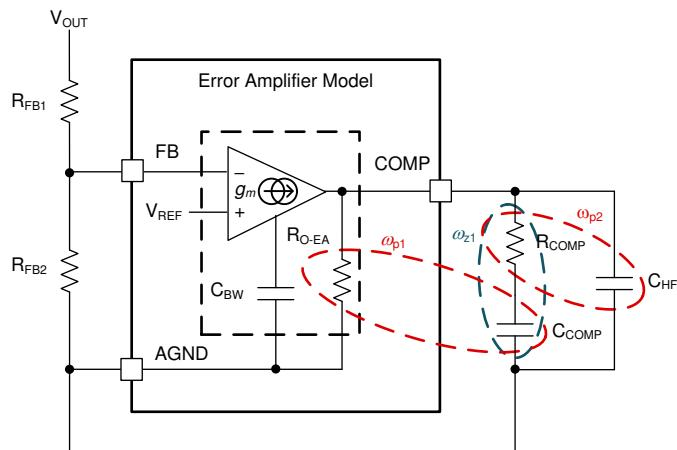

図 8-3. Error Amplifier and Compensation Network
図 8-3 shows a type-II compensator using a transconductance error amplifier (EA). The dominant pole of the EA open-loop gain is set by the EA output resistance, R_{O-EA} , and effective bandwidth-limiting capacitance, C_{BW} , as shown by 式 26.